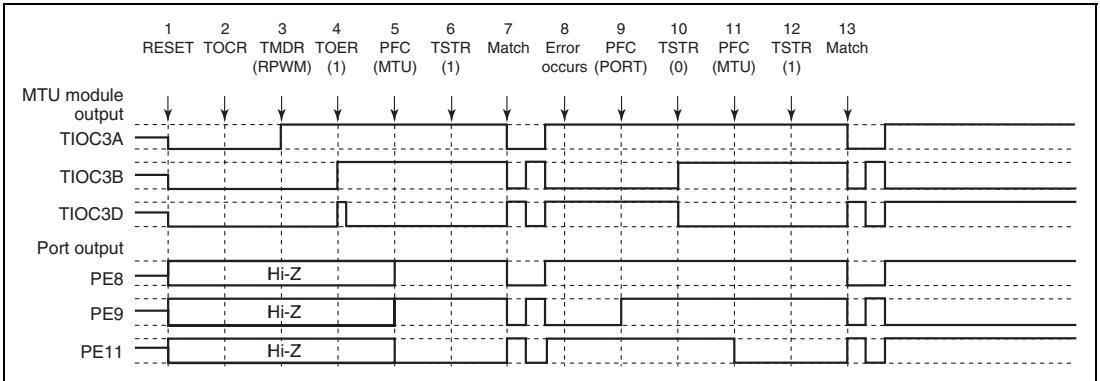

Figure 8.112 Error Occurrence in Reset-Synchronous PWM Mode, Recovery in Reset-Synchronous PWM Mode
(29) Operation when Error Occurs during Reset-Synchronous PWM Mode Operation, and Operation is Restarted in Reset-Synchronous PWM Mode: Figure 8.112 shows an explanatory diagram of the case where an error occurs in reset-synchronous PWM mode and operation is restarted in reset-synchronous PWM mode after re-setting.